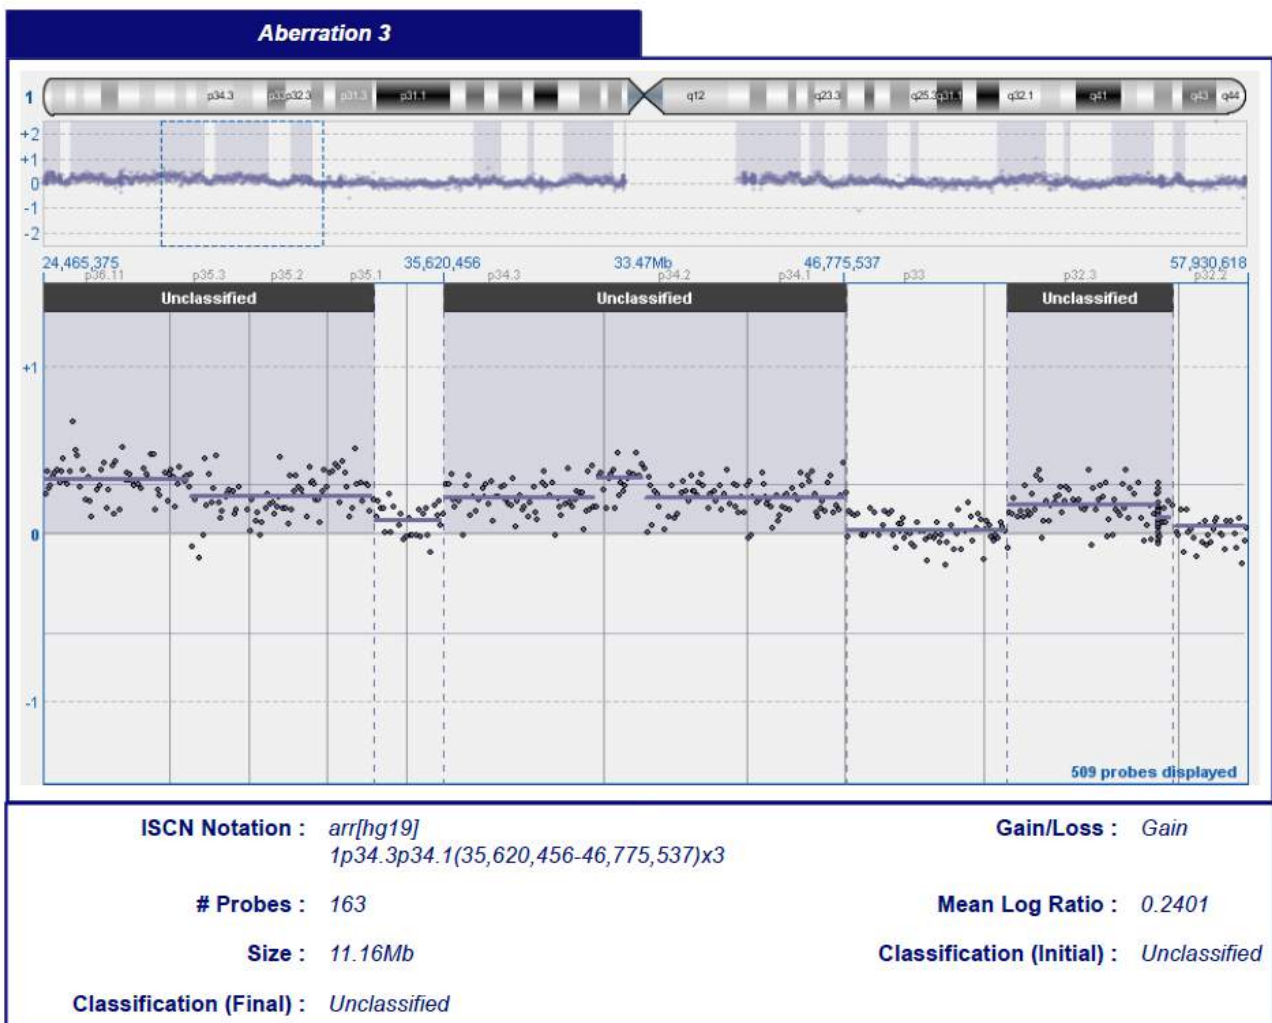

Figure 12: Example Visual Aberration Display included in HTML and PDF aberration reports.
- Additionally, the PDF and HTML reports will display the ideogram view of aberration, as well as additional aberration display sections for each aberration (Figure 12).